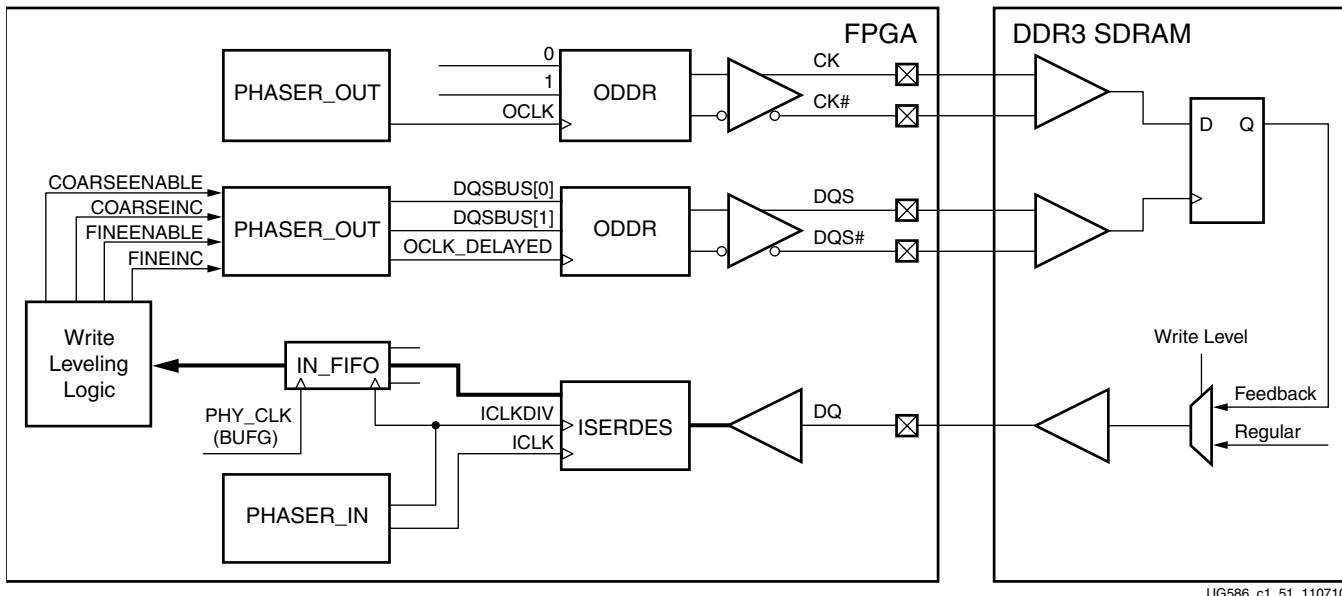

Figure 1-60: Write Leveling Block Diagram
Write leveling, which is a feature available in DDR3 SDRAM, is performed in this stage of calibration. DDR3 SDRAM modules have adopted fly-by topology on clocks, address, commands, and control signals to improve signal integrity. Specifically, the clocks, address, and control signals are all routed in a daisy-chained fashion, and termination is located at the end of each trace. However, this causes a skew between the strobe (DQS) and the clock (CK) at each memory device on the module. Write leveling, a new feature in DDR3 SDRAMs, allows the controller to adjust each write DQS phase independently with respect to the CK forwarded to the DDR3 SDRAM device. This compensates for the skew between DQS and CK and meets the tDQSS specification. During write leveling, DQS is driven by the FPGA memory interface and DQ is driven by the DDR3 SDRAM device to provide feedback. The FPGA memory interface has the capability to delay DQS until a 0-to-1 transition is detected on DQ. Write leveling is performed once after power-up. The calibration logic ORs the DQ bits in a byte to determine the transition because different memory vendors use different bits in a byte as feedback. The DQS delay can be achieved with the PHASER\_OUT fine and coarse delay adjustment in the 7 series FPGAs. Figure 1-60 shows the write leveling block diagram.